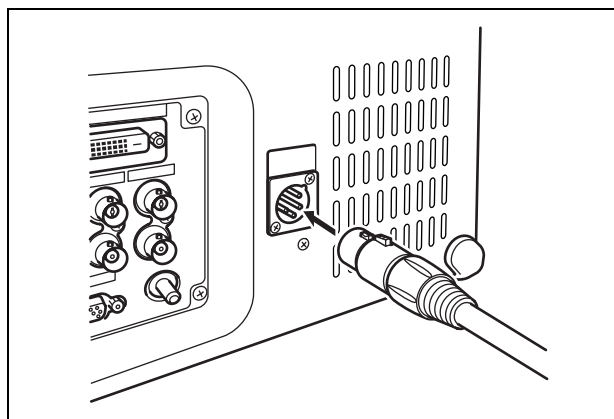

Figure 3.3
3. Slide the DC cord into the DC IN terminal on the monitor until it locks in place (see Figure 3.3).